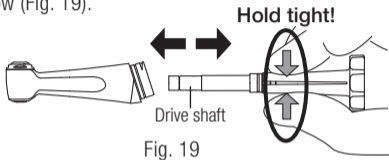

Fig. 19
- 4 Tightly hold the FX Wrench as illustrated in Fig. 19 then pull the drive shaft straight out in the direction of the arrow (Fig. 19).
- When removing the drive shaft, tightly hold the FX Wrench as directed in Fig. 19.